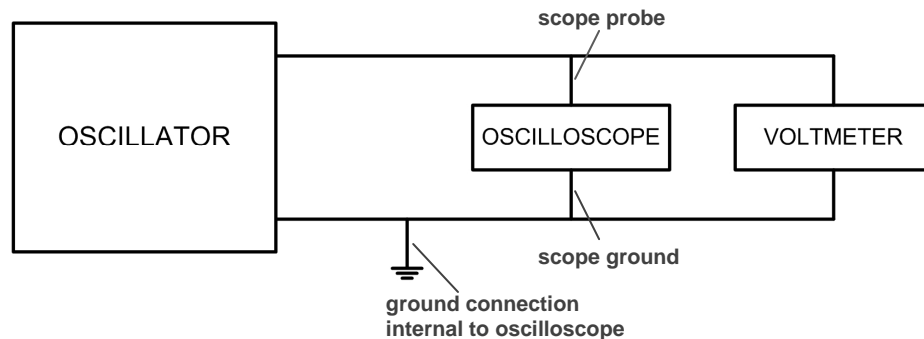

Figure 5. Circuit configuration for step 1.2.
1.2 Connect the oscillator, oscilloscope (channel 1) and voltmeter as shown in Figure 5. Connect the oscillator output cable to the 'HI' output port, and adjust it to give 5 volts RMS sine wave on the voltmeter at approximately 1 kHz. Note that the oscilloscope ground is *always* connected to the ground node of the circuit because it is internally connected to hydro ground.